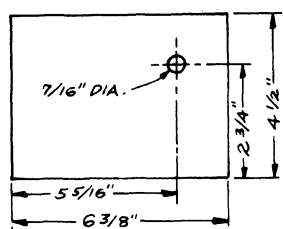

FIGURE 22
3. Remove the back cover from the steering column. Check for clearance between the #189233 steering weld assembly and the #181473 steering column. See Figure 22.